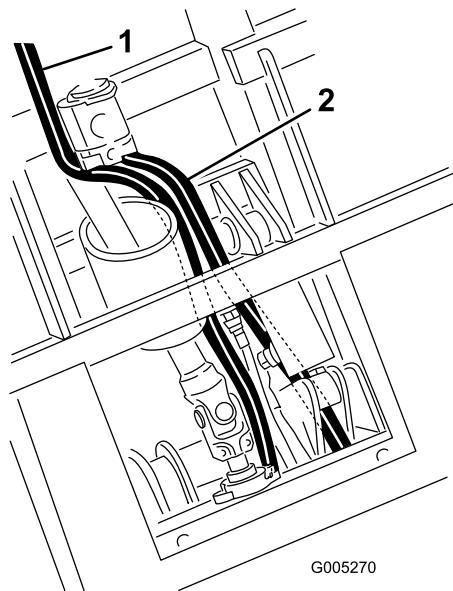

Figure 19
- Route the tank hose under the lift cylinder and between the cylinder mounting brackets to the valve (Figure 19).
- Route the pressure hose along side the PTO shaft to the valve (Figure 19).